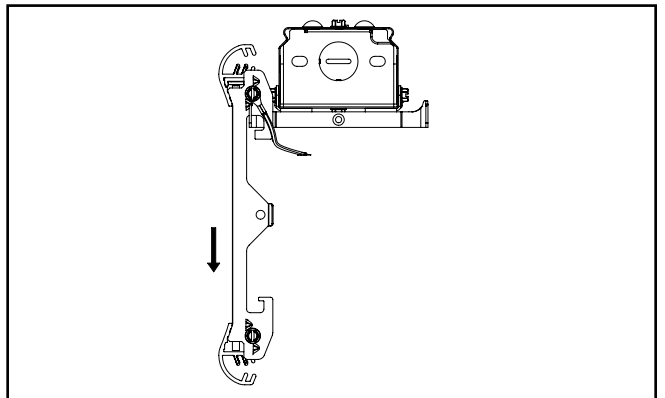

Figure 5.2.
- Place waveguide assembly inside the groove in driver hinge bracket (Figure 5.2).